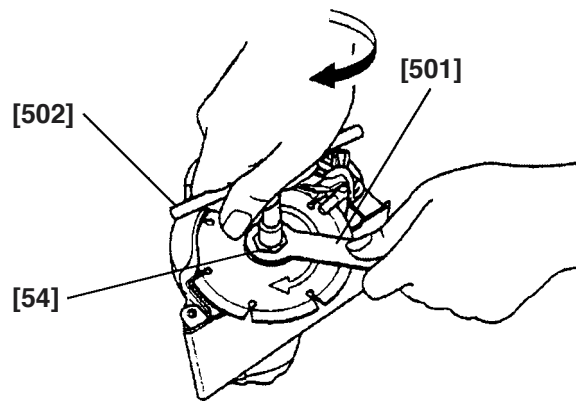

Fig. 1
(1) Removal of the diamond wheel (Fig. 1)